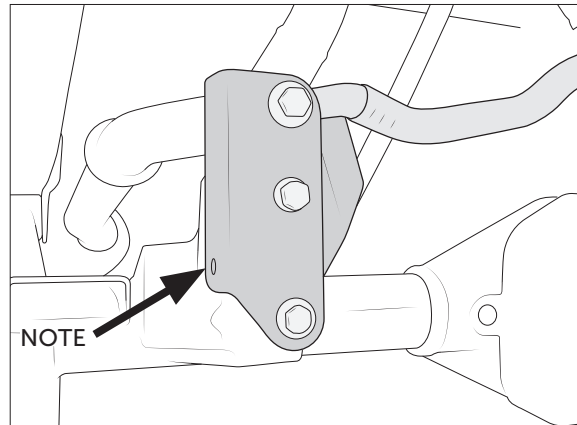

Figure 7
**NOTE:** There's an extra hole on the outboard side of the track bar tower. Testing has shown this is not necessary, but if desired you can drill through the factory bracket and add an additional bolt here. Hardware is not provided for this location (Fig 7).